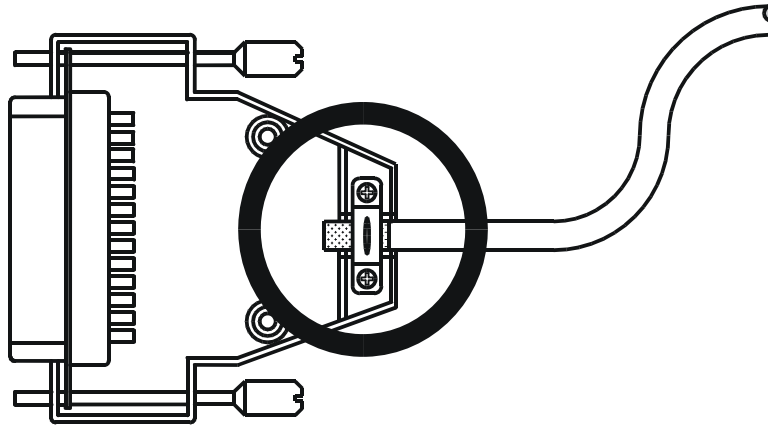

Fig. 1: Shielding of SUB-D connectors in conformity with EMC standards
-  Only use metallized connectors, e.g. SUB-D with metallized housing. Make sure that the strain relief is directly connected with the housing here as well (see Fig. 1).